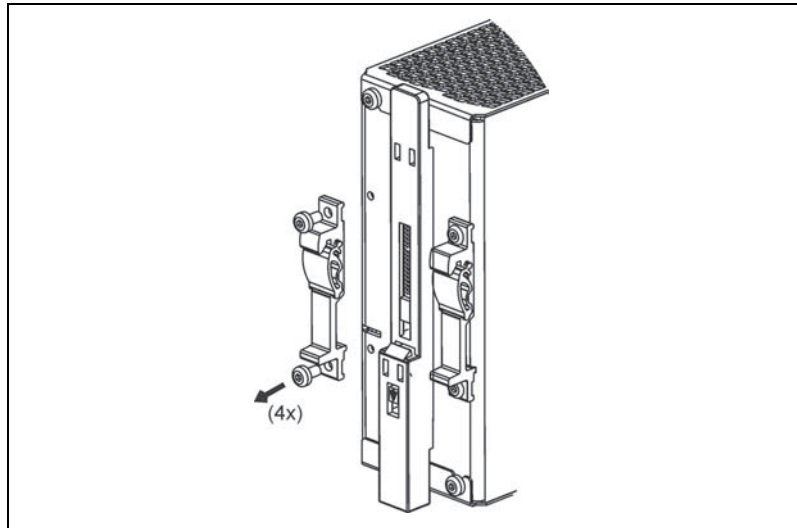

Figure 4. Removing the Aluminum Brackets
1. Detach the two aluminium brackets by removing the four screws with a Torx 10 screwdriver, as shown in Figure 4.